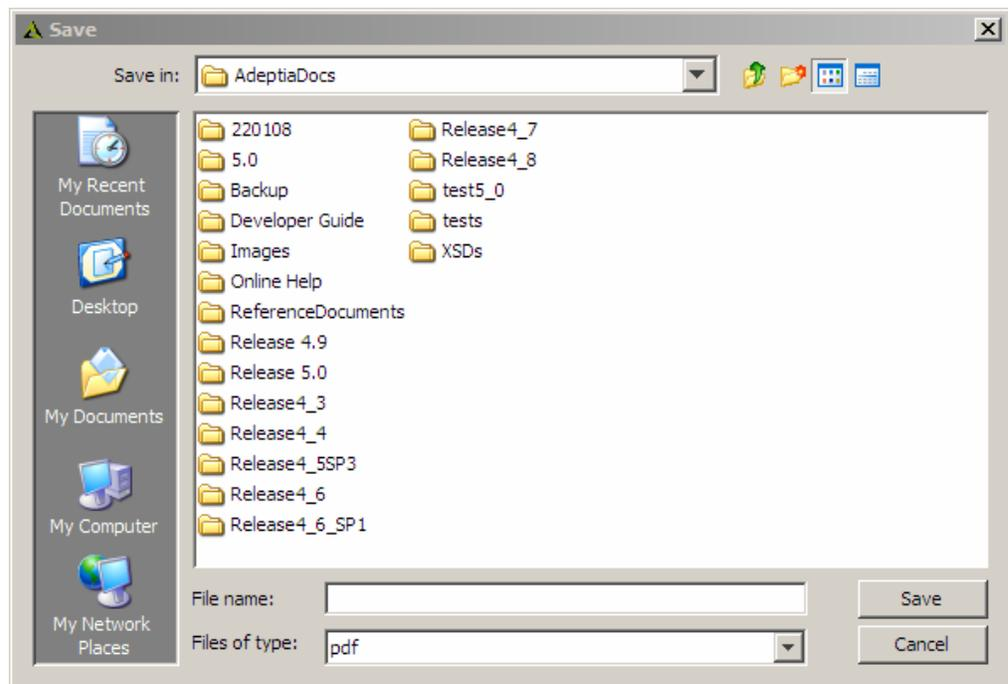

Figure 7.21: Save PDF
1. In Process Modeler, click **Generate PDF** () button. The Save PDF screen appears to select the path, where PDF file will be saved (see Figure 7.21).